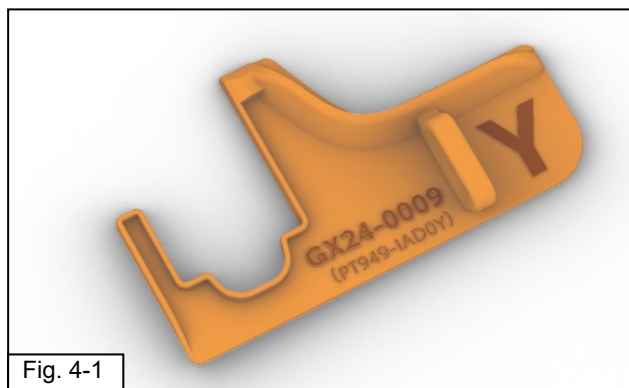

Fig. 4-1
- (b) For PPO Installations, please use 3D hard template "Y" with the part number "**GX24-0009**" (Legacy: **PT949-IAD0Y**) (Fig. 4-1) and follow steps (d) through (f).